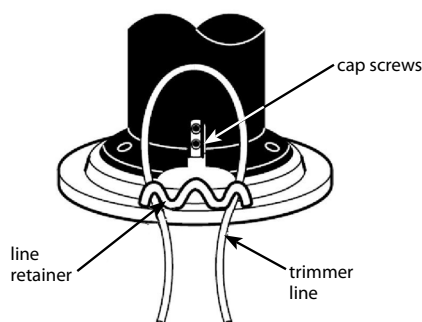

Figure 11: Threading the new trimmer line.
3. First, thread the ends of the new trimmer line through the outside loops. **SEE FIGURE 11.**